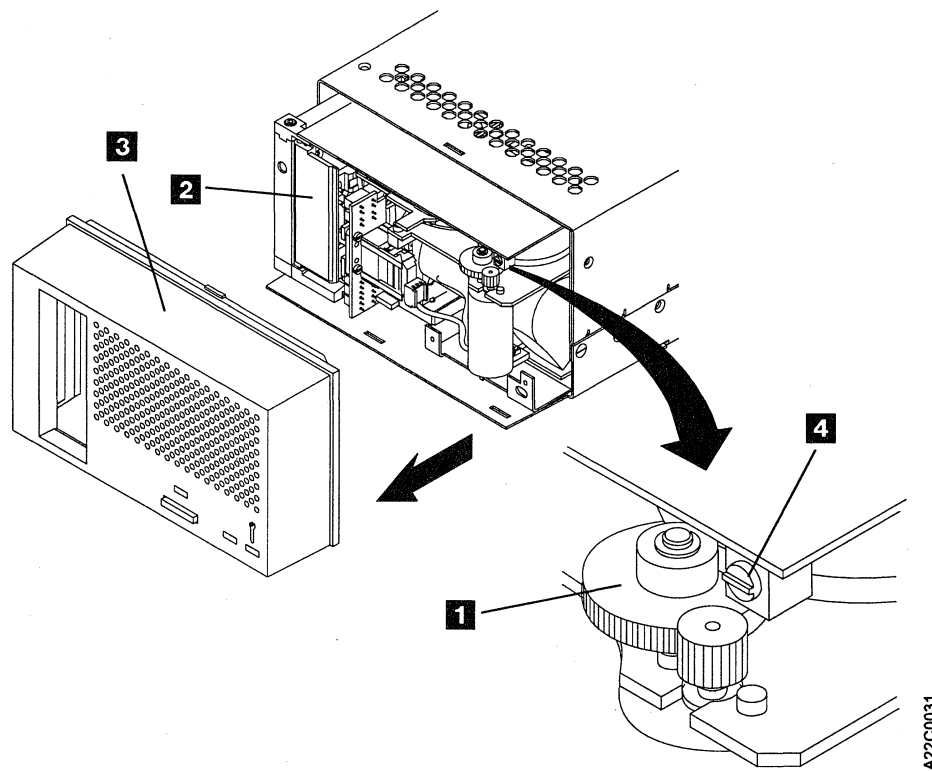

Figure 14. Setting the SCSI Address on Model C00
- 3. Remove the drive cover (see **3** in Figure 14) by pressing the top center of the drive cover and pulling it from the front of the drive (see **2** in Figure 14).
- 4. Set the rotary SCSI address switch (see **4** in Figure 14), located in the upper right corner, near the drive gear (see **1** in Figure 14), to the specified address. The switch is set to 0 at the factory.